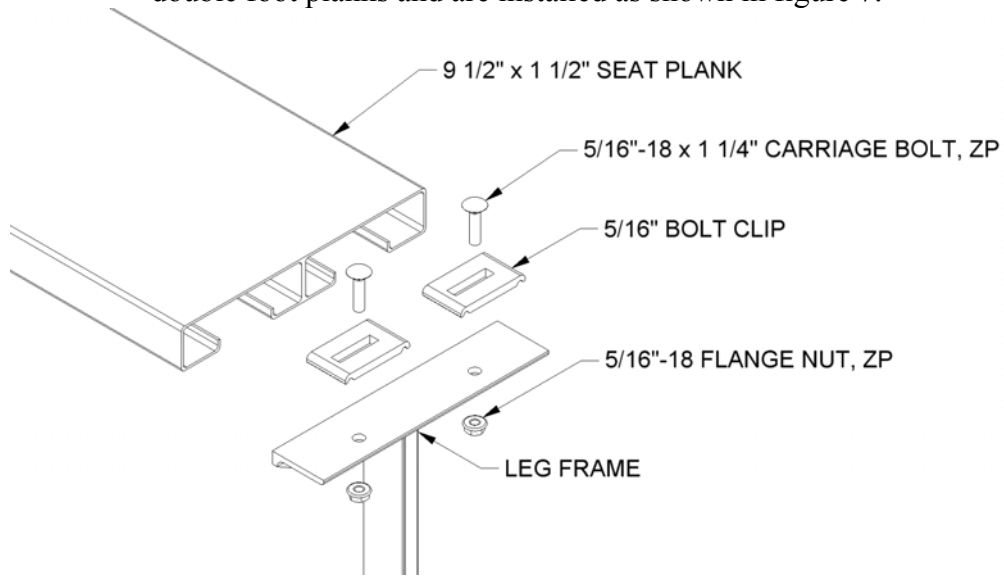
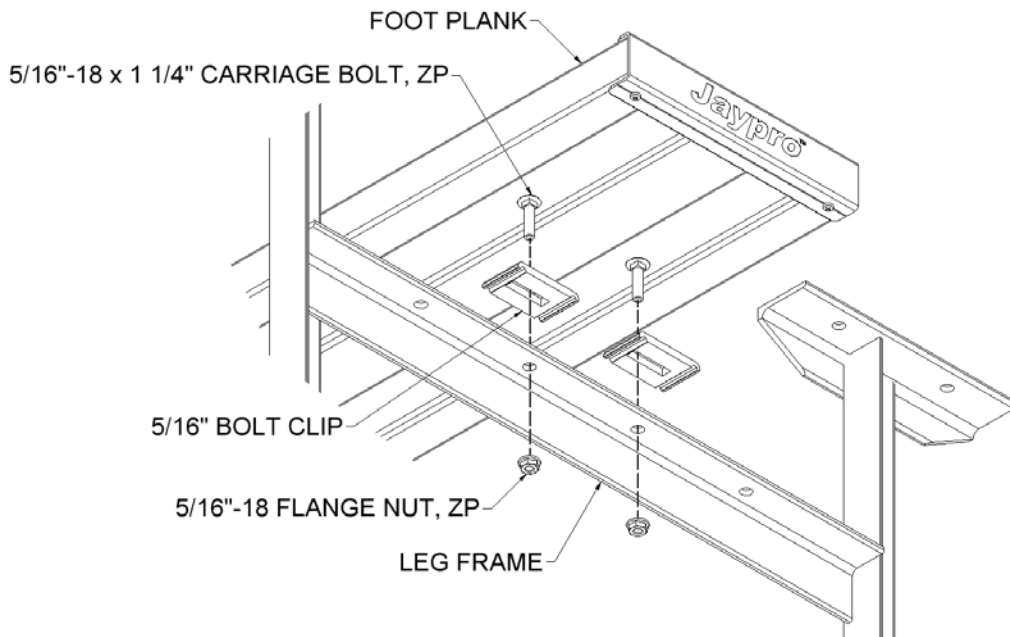
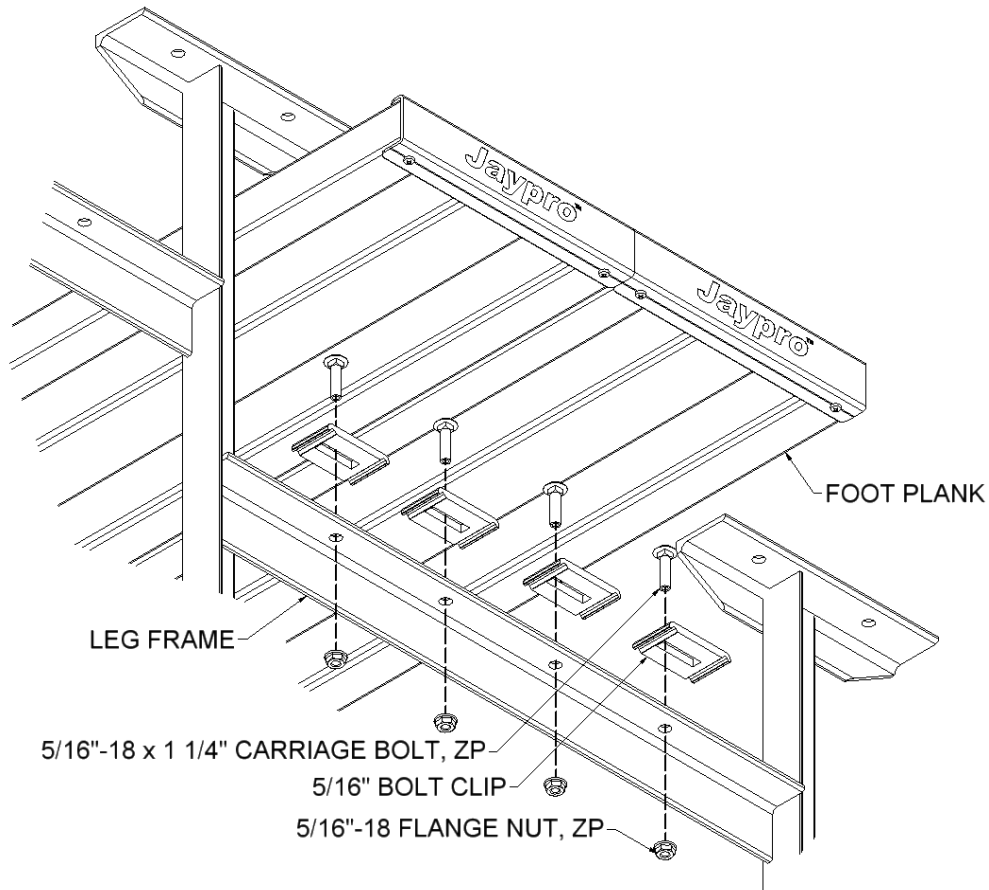

FIGURE: 5
FIGURE: 6
FIGURE: 7
5. Making sure the undercarriage frame is square and plumb, install the seat and foot planks. The seat and foot planks are best installed starting from the front seat and working towards the back. Use the hardware and bolt clip as shown in figure 5. Position planks so they are centered on the frame, with equal amount of overhang on each end. Note that standard bleacher (BLCH-375TRG) have a single foot plank, which is centered on the support frame, see figure 6. Preferred bleacher (BLDP-375TRG) have double foot planks and are installed as shown in figure 7.